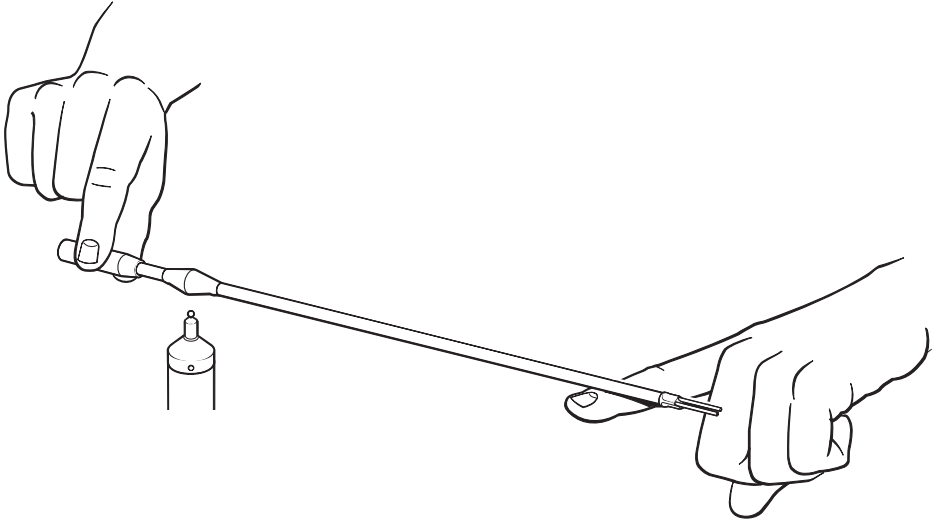

Figure 11 - Mounting the counterbalanced arm
12. Locate the counterbalanced arm on the pivot ball as shown in figure 11.